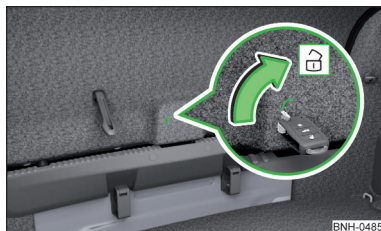

Fig. 145
- Insert the vehicle key into the slot in the trim panel » Fig. 145 as far as it will go.